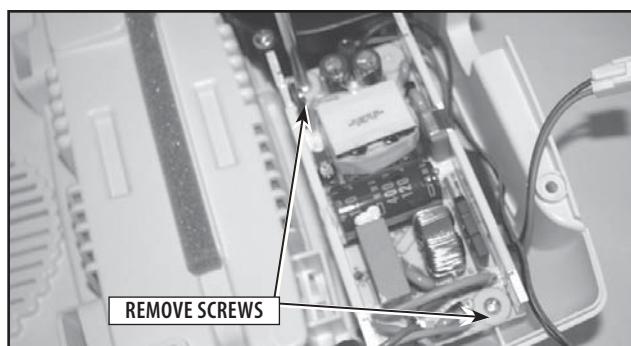

FIGURE 6.9
4. With #1 Phillips screwdriver, remove the 2 screws securing the Power Supply. **Refer to Figure 6.9.**